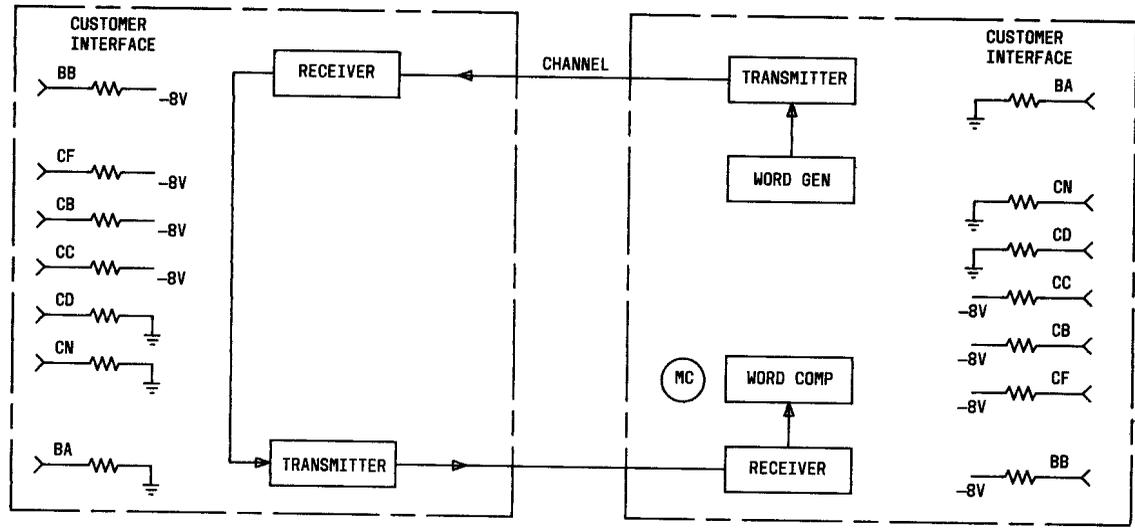

Fig. 6—Digital Loopback—Simplified Block Diagram
**4.04** This test takes advantage of the digital loopback capability of the data set at one end and the self-test (pattern generating and comparing) capability of the data set at the other end (Fig. 6). The test is performed by putting one data set in the DL mode, placing the other data set in the ST mode, placing a call, and then going to the data mode. The MC indicator on the data set which is in the ST mode blinks when data distortion of a single bit exceeds 25 percent (low-speed) or if a received error occurs (high-speed).